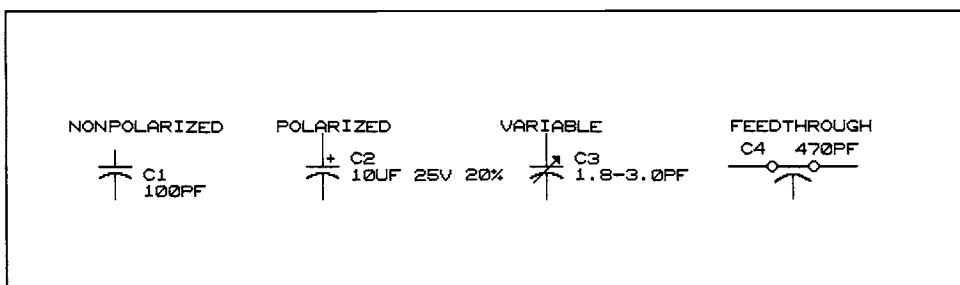

Figure 1-2 Capacitor Symbols
Figure 1-2 shows capacitors. The unit for capacitance is the farad (F), but most capacitors are in the microfarad or picofarad range, so the units UF and PF are used. OrCAD capacitor symbols are shown above. By convention, the capacitor symbol is always oriented towards ground or the lowest DC voltage. For circuits where the DC voltage is not fixed or known, nonpolarized capacitors are drawn with the convex side facing right or down. Additional information required to describe a capacitor includes the voltage rating, tolerance, and construction. Fixed value capacitors can be nonpolarized and polarized. Capacitors are classified according to the electrode and dielectric materials used in their construction. Other than surface mount devices, where a standard size code can easily be added to the part description, there are no real standards for capacitor sizes and the manufacturer's part number should be included in the description.